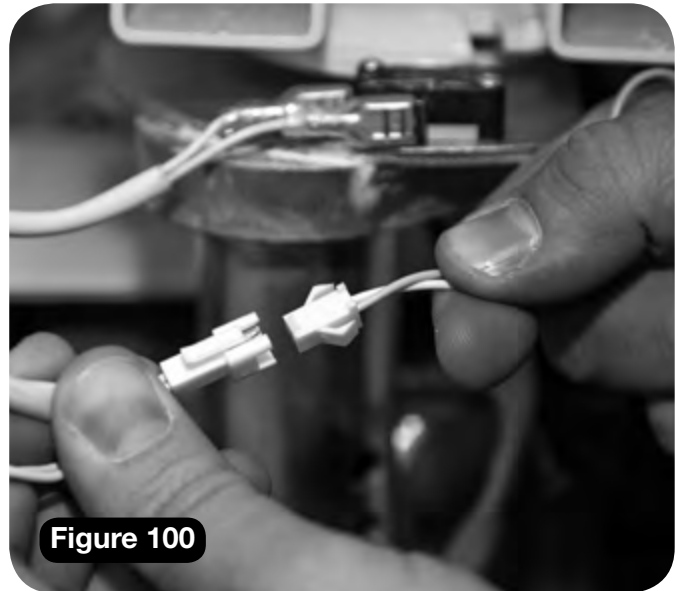

Figure 100
- c Connect the key switch loom from the power pack (orange and green) to the swivel switch loom connector (2 x white). (**Figure 100**).